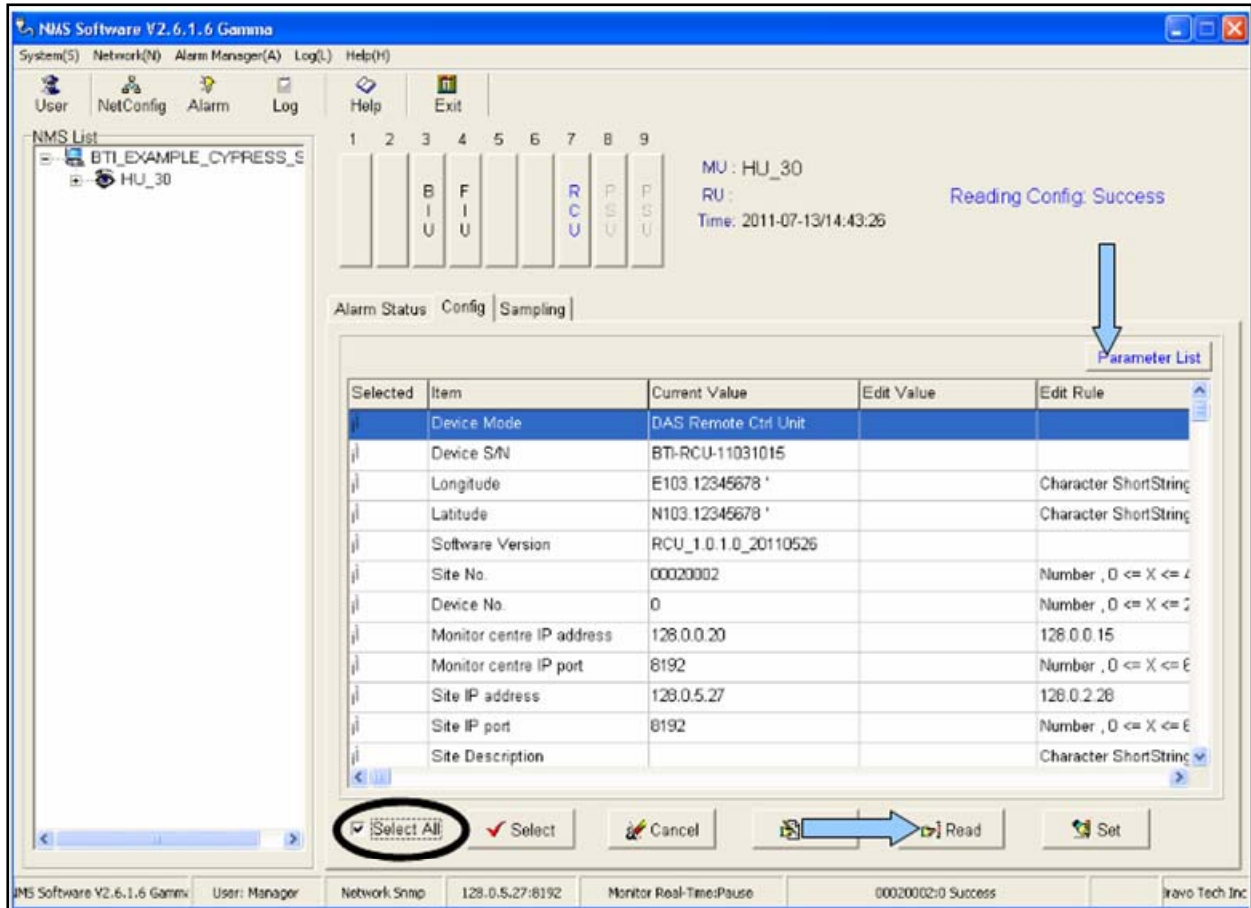

Figure 5-12. View the Current Values
5. Click on *Read*, **Figure 5-12**.